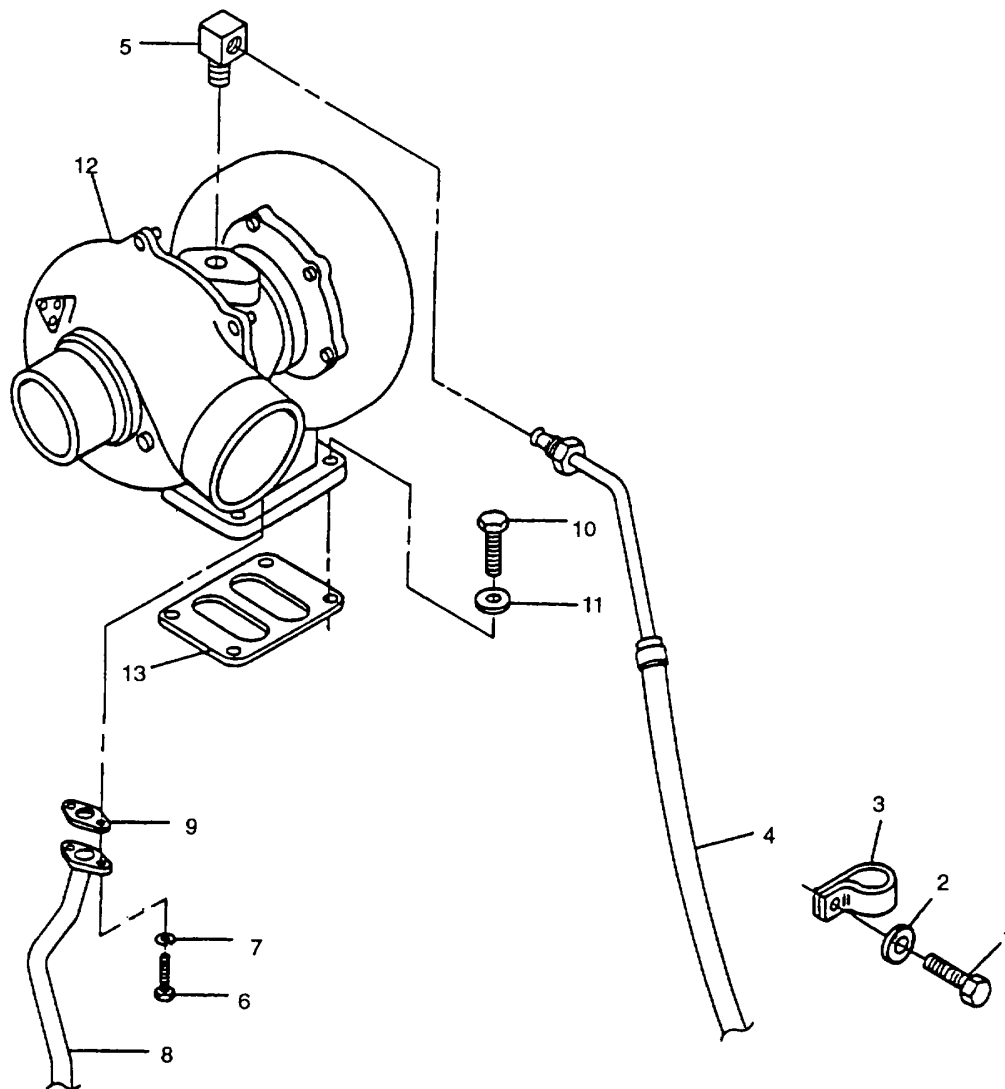

FIGURE 3-42. Turbocharger
- b. Remove air intake line and exhaust line from turbocharger (12, FIGURE 3-42), refer to end item maintenance manual.
- d. Position new stainless steel gasket (13, FIGURE 3-42) and turbocharger (12) on exhaust manifold and secure with four capscrews (10) and flatwashers (11). Tighten capscrews to 35 ft-lbs (47 Nm).
- e. Position new gasket (9) and oil drain line (8) on turbocharger and secure with two capscrews (6) and new lockwashers (7). Tighten screws to 20 ft-lbs (27 Nm).
- f. Connect oil inlet line (4) to fitting (5) on top of turbocharger.